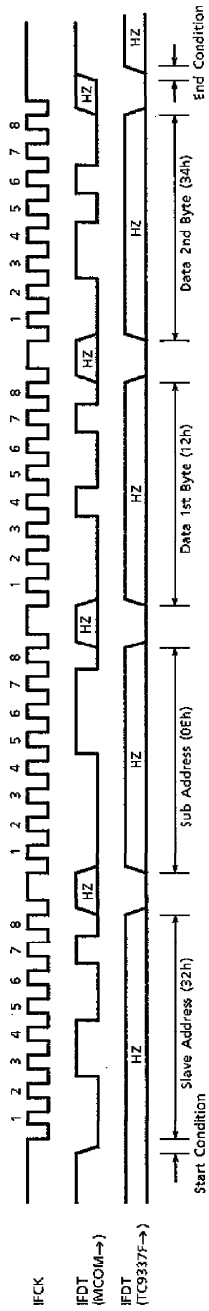

Fig. 10-1
- Ex1. Figure 10-1 shows examples of set to register data 1234h at control register 1 (sub address 0Eh).